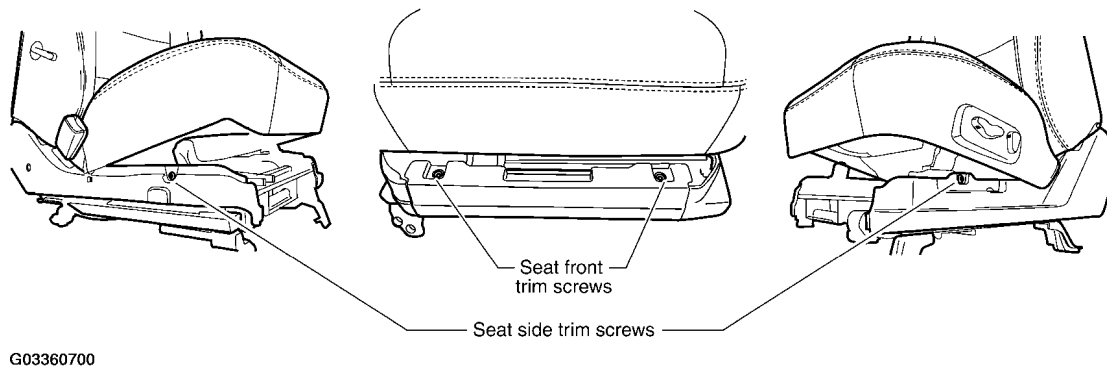

Fig. 5: Removing Screws And Finisher From Front Edge Of Seat
13. Remove both screws and finisher from the front edge of the seat (see Fig. 5).
14. Remove the top screw only from the RH & LH side finishers (see Fig. 5).
26. Re-install screws to attach the side finishers and the front finisher (refer to Fig. 5 if needed).